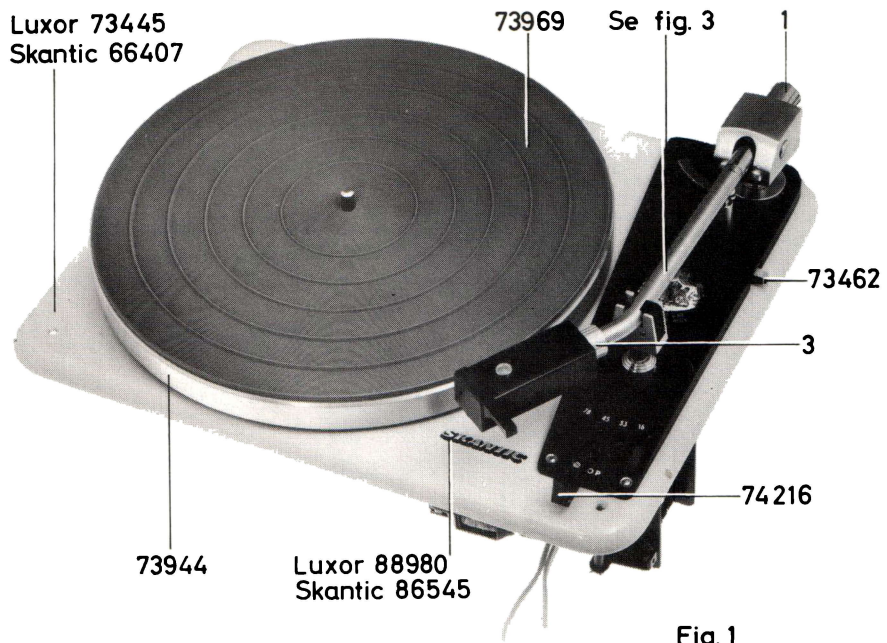

Fig. 1
NÅLTRYCKSKRAFTEN JUSTERAS TILL 2 - 2,5 POND (GRAMKRAFTEN) GENOM ATT SKRUVA PÅ TONARMENS BAKRE RATT (1) FIG. 1.
SKRUVA LOSS HYLSAN (3) FIG. 1, SOM HÅLLER PICKUPHUVUDET, DRAG UT DETTA, FATTA TAG I DEN ORANGEFÄRGÅDE DELEN AV PLAST OCH DRAG UT DENNA FÖRSIKTIGT. SÄTT I EN NY NÅL OCH FÖRFAR PÅ OMVÄNT SÄTT.